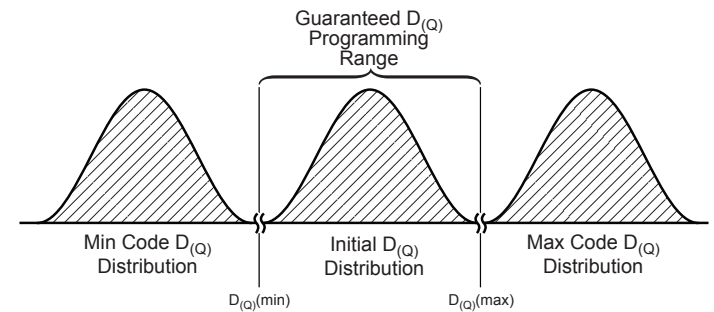

Figure 3. Definition of Guaranteed Quiescent Voltage Output Range
**Guaranteed Quiescent Current Duty Cycle Range.** The Quiescent Current Duty Cycle,  $D_{(Q)}$ , can be programmed around its nominal value of 50% D, within the Guaranteed Quiescent Duty Cycle Range limits:  $D_{(Q)}(\min)$  and  $D_{(Q)}(\max)$ . The available guaranteed programming range for  $D_{(Q)}$  falls within the distributions of the minimum and the maximum programming code for setting  $D_{(Q)}$ . (See figure 3.)